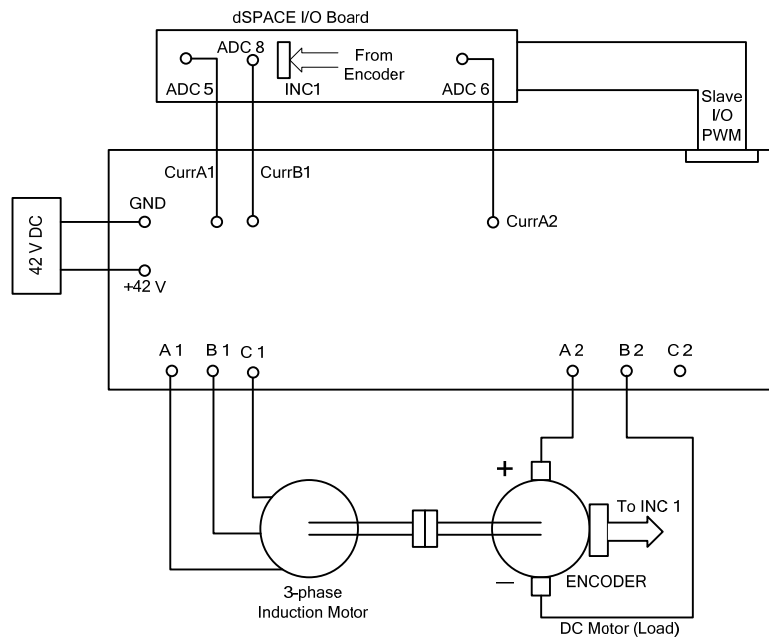

Figure 9.2: Connections for torque-speed characteristics, speed control of three phase induction motor
- Make connections as shown in Fig. 9.2. Make sure the phase sequence of the induction motor is correct.